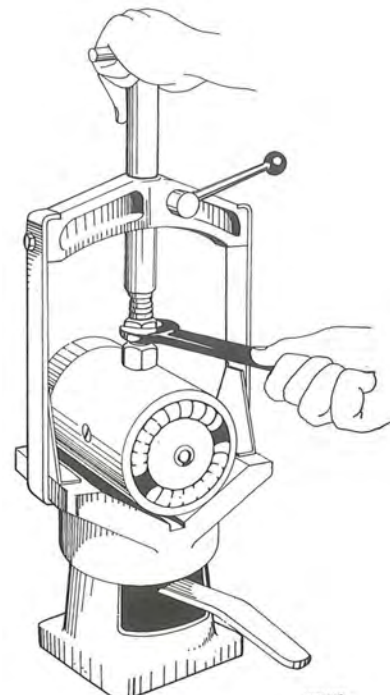

Fig. 3-42. Holding device for removing field windings
3. Then place the stator in the holding device as shown in Fig. 3-42 (Bosch EF AW 9) or similar and unscrew the pole screws.